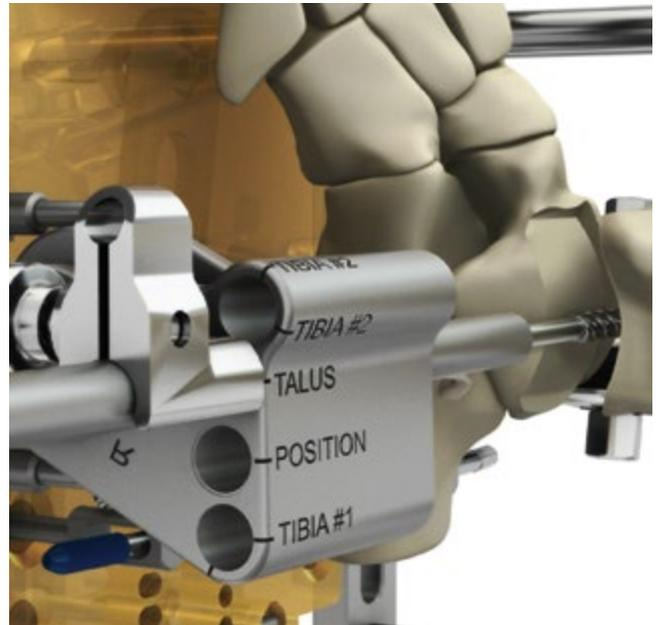

Fig. 61
- Reinsert the bur assembly into the “TALUS” hole of the Cutting Guide (Fig. 61).